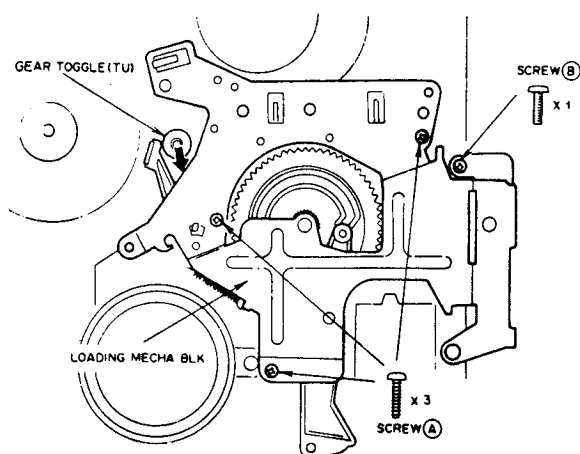

Fig. 4-18
- 9) Attach the LOADING MECHA BLK with holding the GEAR TOGGLE (TU) in the direction of the arrow as shown in Fig. 4-18. Tighten the LOADING MECHA BLK with four screws ① and ②.